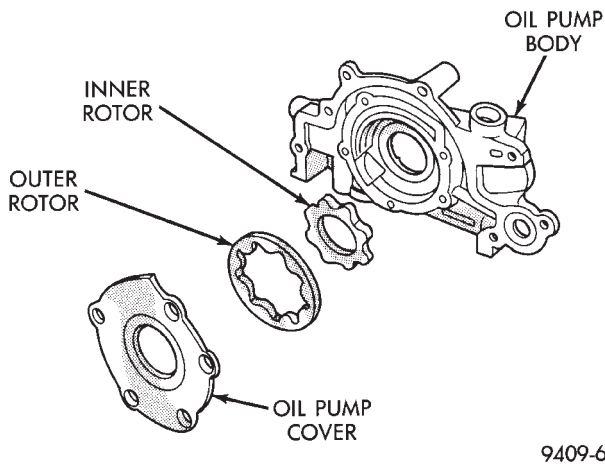

Fig. 102 Oil Pump
- (4) Remove oil pump cover screws, and lift off cover.
- (5) Remove pump rotors.
- (6) Wash all parts in a suitable solvent and inspect carefully for damage or wear (Fig. 102).